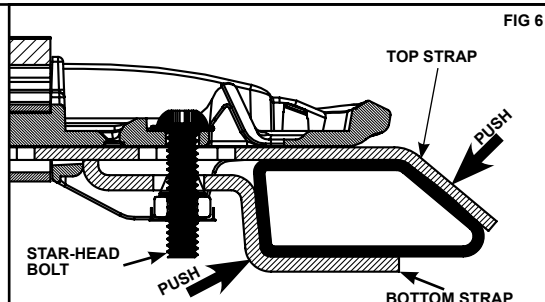

FIG 6
7. Gradually tighten bolts alternatively ensuring Straps are properly engaged, until even tensioning is achieved. While tightening the Bolts pull the Bottom Strap out while pushing the Top Strap in (Fig 6) (Do not over-tighten bolts).